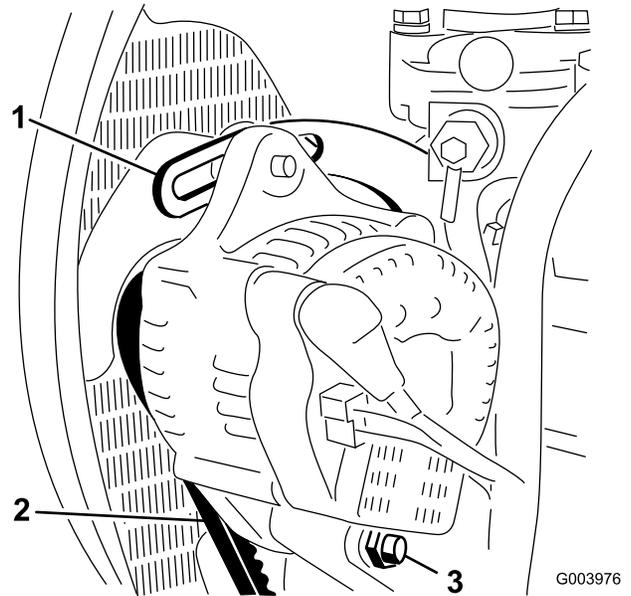

Figure 66
2. Check the tension of the alternator belt by depressing it (Figure 66) midway between the alternator and the crankshaft pulleys with 10 kg (22 lb) of force.
3. Loosen the bolt securing the brace to the engine (Figure 66), the bolt securing the alternator to the brace and the pivot bolt.